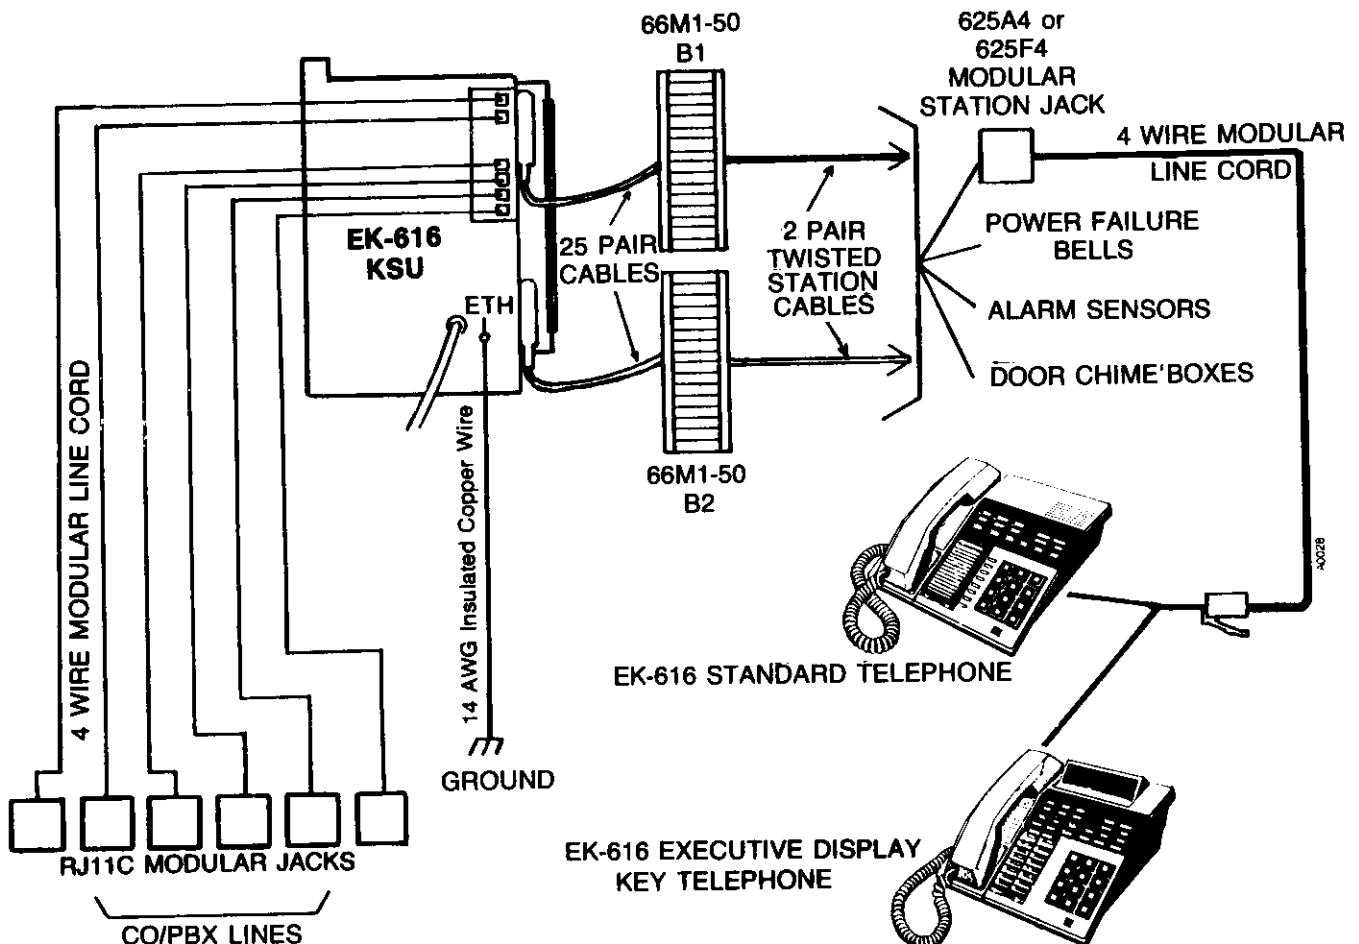

Figure 3-1 STATION EQUIPMENT, EK-616
4.01 Use the following guide to determine overall equipment requirements for installation (Figure 3-1). Complete Table 3-4 using the OCWs (Tables 3-1, 3-2, and 3-3).